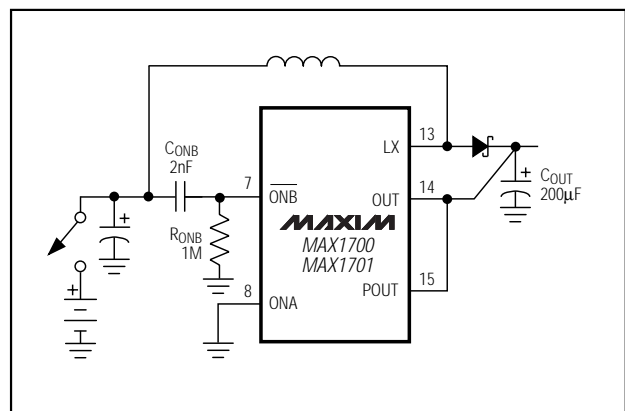

Figure 12. Connecting C_{ONB} and R_{ONB} when Switch or Battery-Contact Bounce Is Anticipated
- 1) Connect a capacitor (C_{ONB}) from \overline{ONB} to V_{IN} , a $1M\Omega$ resistor (R_{ONB}) from \overline{ONB} to GND, and tie ONA to GND (Figure 12). This RC network differentiates fast input edges at V_{IN} and momentarily holds the IC off until V_{IN} settles. The appropriate value of C_{ONB} is 10^{-5} times the total output filter capacitance (C_{OUT}), so a C_{OUT} of $200\mu F$ results in $C_{ONB} = 2nF$.